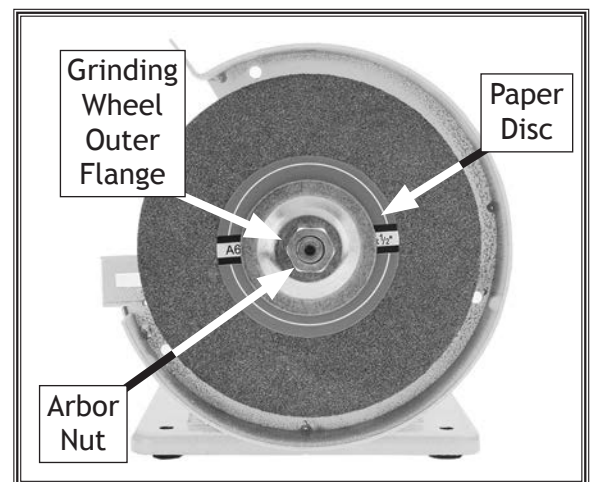

Figure 15. Arbor nut location.
- Do not overtighten the arbor nut when mounting the wheel (see **Figure 15**).